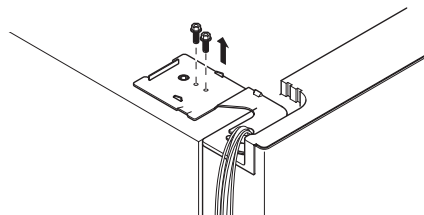

Fig.4 Removing hinge screws
- ③ Undo the screws holding down hinge bracket. Do not disconnect the earth wire from the screw (Fig.4).
- ④ Lift freezer door and thread the water tube up through the lower hinge.
- ⑤ Pull the door up and then away from the cabinet.